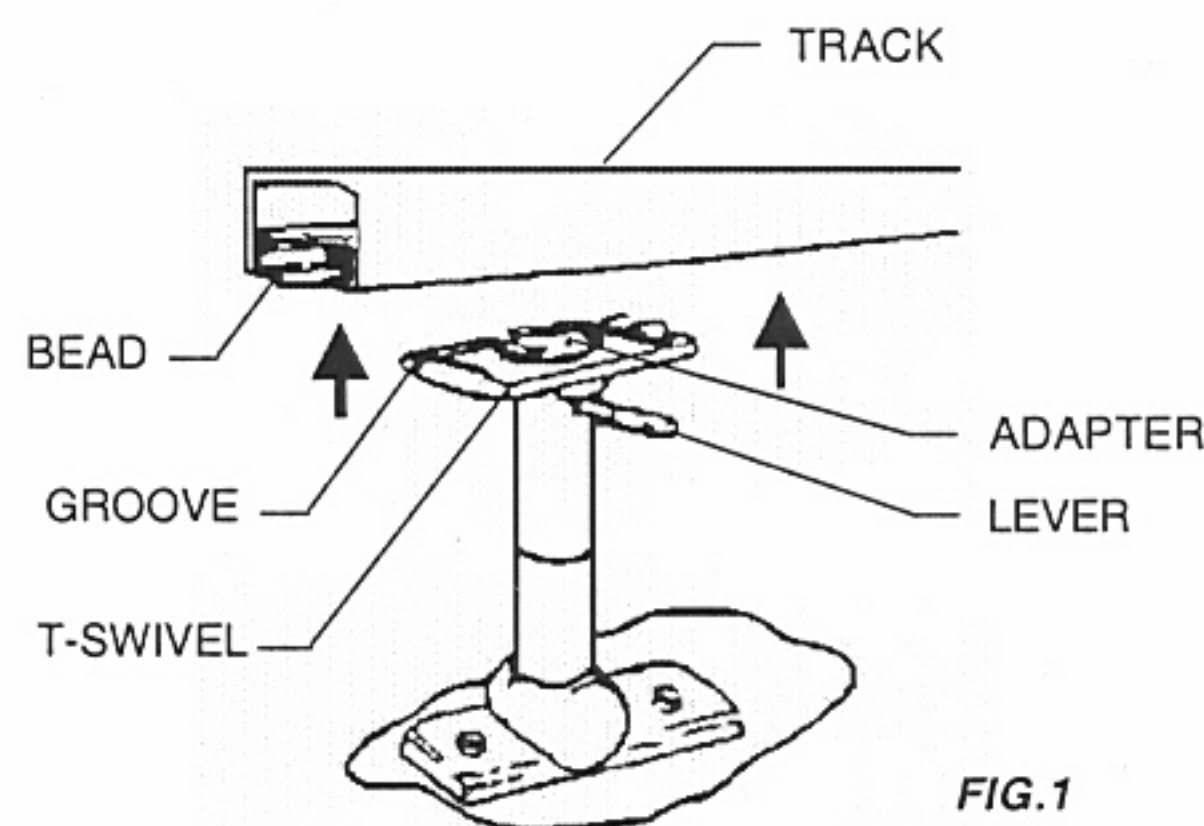

FIG.1
1. Position lever 90° with track. (Fig.1)
2. Align bead on track with groove in T-swivel. (Fig.1)
4. To remove or shift projector on track, turn lever 90° counterclockwise. (Fig.1 and 2)